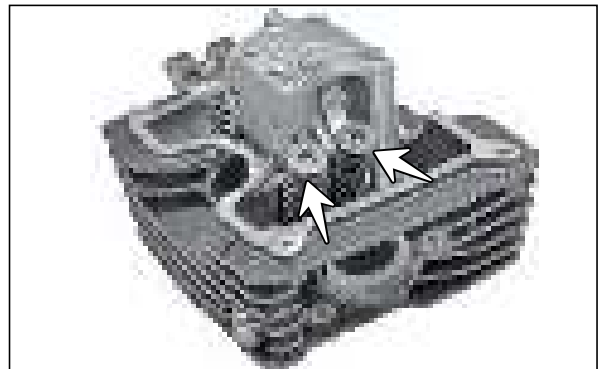

Fig. 3.55
- Remove the retainer valve springs and spring valves. (Fig. 3.55)